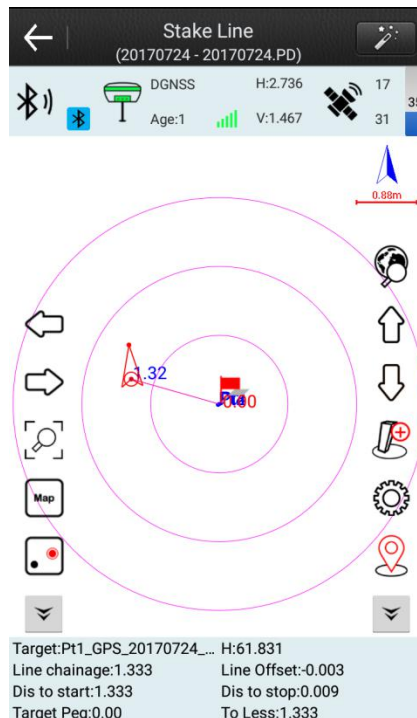

Figure5-20
6. If you need to add a stake to the line during the staking process, click " " to set the stake mode and Position, then click "OK" to pop up the result dialog box. Click "Stakeout" to enter the stakeout interface, as shown in Figure 5-20. Then you can stake out according to the prompts in the bottom status bar, when the distance between stakeout point and current point is less than 3 meters, taking stake point as the center and generating prompt circles to get into the precise staking.